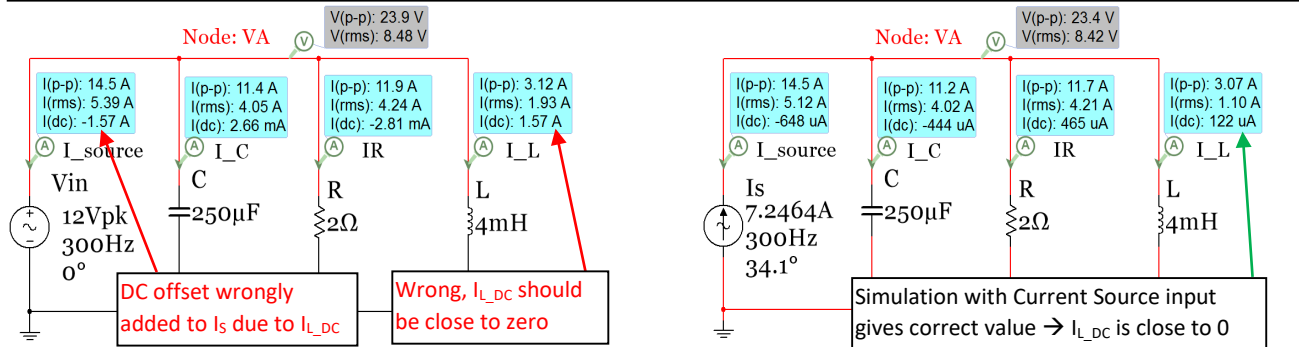
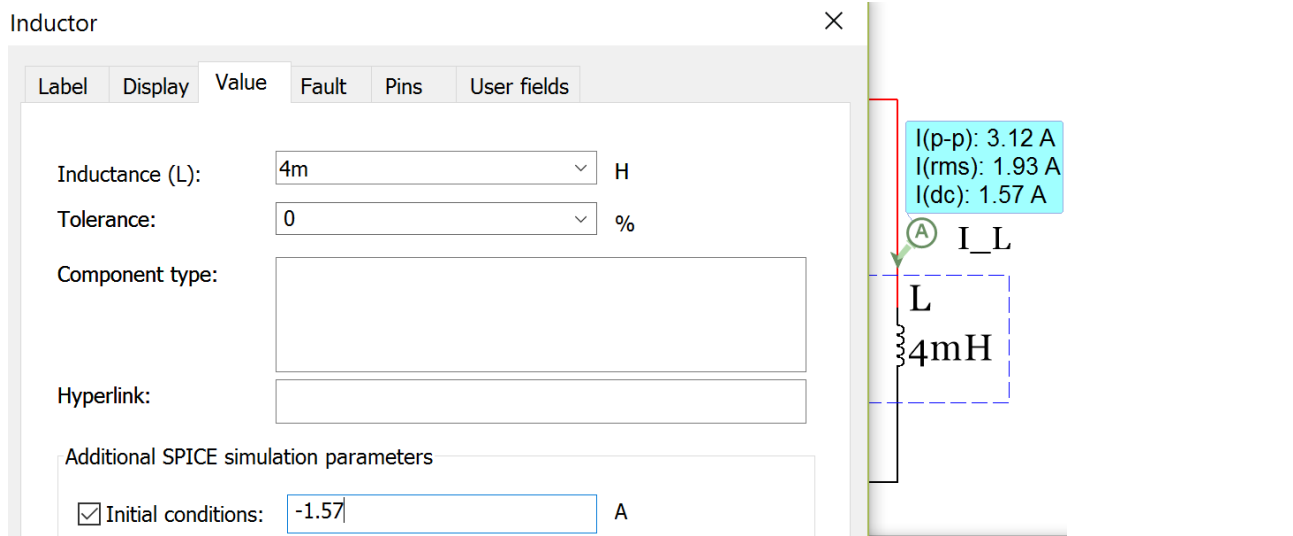
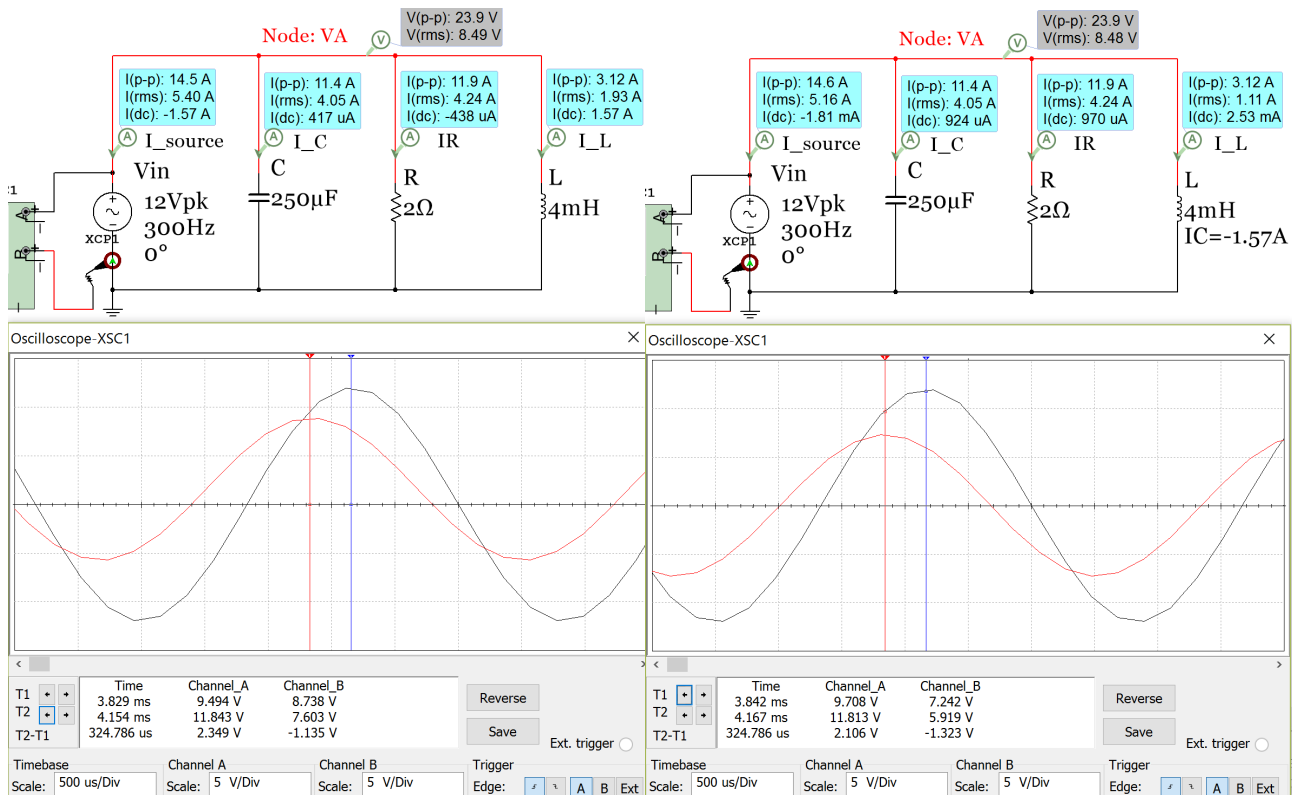

Figure 3.14: Parallel circuit in Example 3.7 with AC Voltage source (Left) and AC Current Source (Right).
Figure 3.15: Inductor dialogue box to enter the DC offset as the initial condition.
Figure 3.16: Parallel RLC circuit from Example 3.7 – Phase Verification in Multisim.
The reason the RMS I_s and I_L don't match the calculations is due to the DC offset that is wrongly included in the simulation as shown in Figure 3.14 (this link gives more info). Here are some options to avoid this error.
- 2) Calculate I_s and use a current source instead of a voltage source. There is no DC offset in Figure 3.14.
All of the voltages and currents have been calculated above and the magnitudes were verified in Multisim. To verify the phase the oscilloscope is needed. To remove the DC offset of the inductor, method 3 described in Figure 3.14 will be used. Figure 3.15 shows the dialog that comes up when you double click on the inductor. Since the DC offset was measured to be 1.57A, a value of -1.57A is entered into the initial condition box to correct for the DC offset. Figure 3.16 (Left) shows the plot of V_{in} and I_S for the initial circuit without modifying the initial condition of the inductor. Due the DC offset the peak value of I_S is measured to be 8.738 A which is about 1.5 A higher than the calculated value of I_{S_pk} (7.2464 A). In the right plot of Figure 3.16 the initial condition of the inductor is included and the DC offset is removed from both I_L and I_S .
The time shift, t_s , in Figure 3.16 is measured to be -0.324786 ms (t_s is negative because its sinusoidal cycle starts before V_{in}). The phase of I_s is calculated below and matches the calculated value (34.1°) fairly closely.
- Even though the ELI the ICE man mnemonic doesn't apply to parallel circuits it DOES apply once the total impedance is determined and you want to compare the source current to the input voltage. In this example I_s LEADS V_{in} (ICE) because the total impedance phase angle is in quadrant IV (-34.1°). This is verified in Figure 3.16.